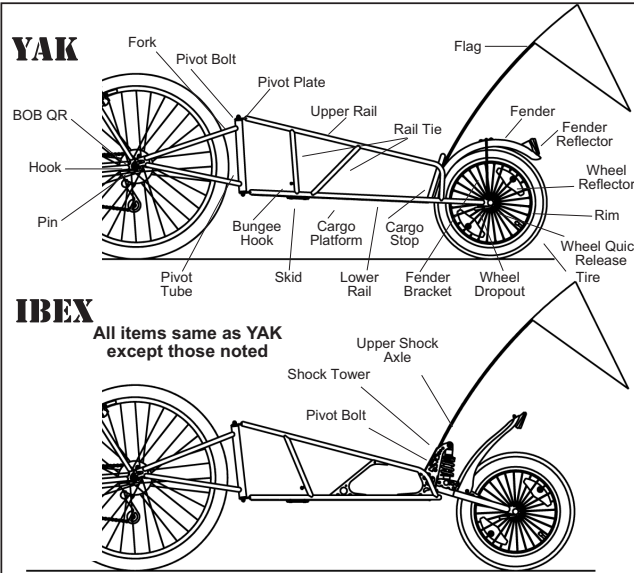
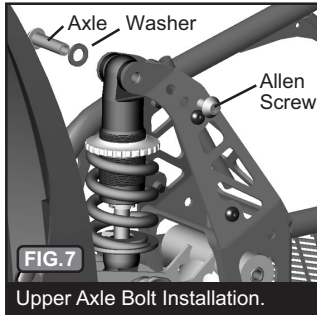

FIG. 1
FIG. 7
**A)** Begin by first removing the pivot bolt and washers, Fig. 1, using two 10mm wrenches.
**D)** Remove the upper shock axle, Fig. 1. Align the shock axle with the holes in the shock tower and install the axle and washer, Fig. 7, and tighten to 60 inch-pounds (70 cm-kgs) using two 5mm Allen wrenches.